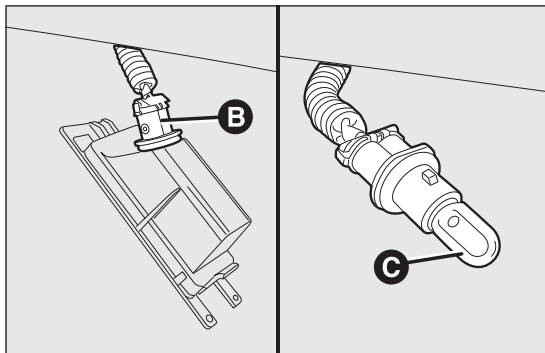

fig. 158
- ☐ turn the bulb holder B fig. 158 anticlockwise and then remove the bulb C.